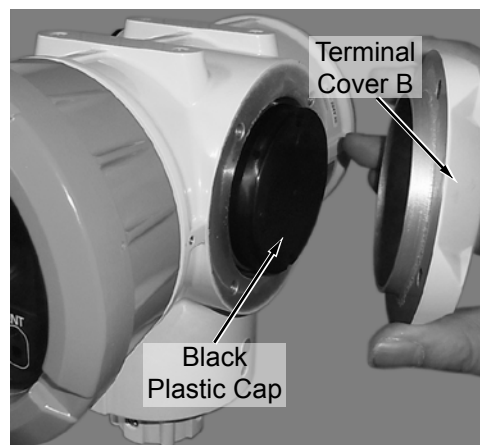

Figure 2.3—Black plastic cap located underneath Terminal cover B
- c. Lift terminal cover B off to expose the black plastic cap (Figure 2.3).